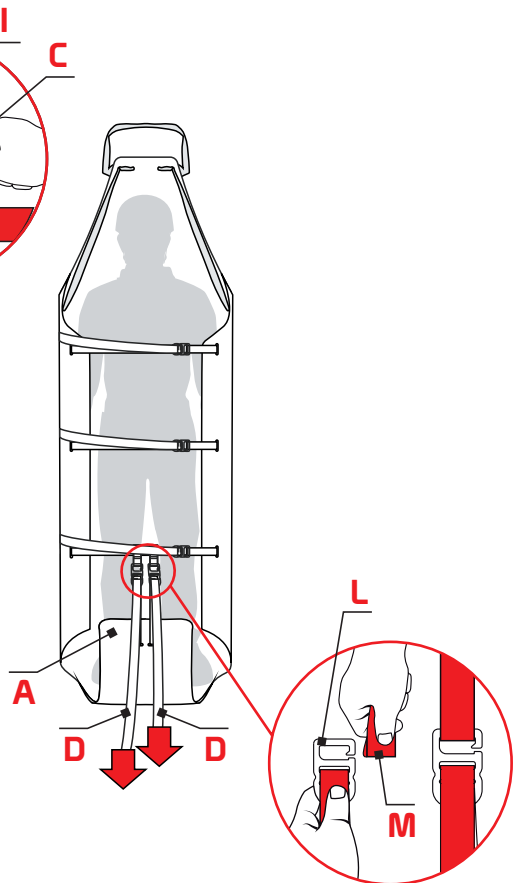

Fig.18
- Insert the buckles with hook (L) in the corresponding slings with eyelet (M) and tension the slings (D) to lift the end part of the support surface (A) enough to contain the patient's feet (fig. 18).